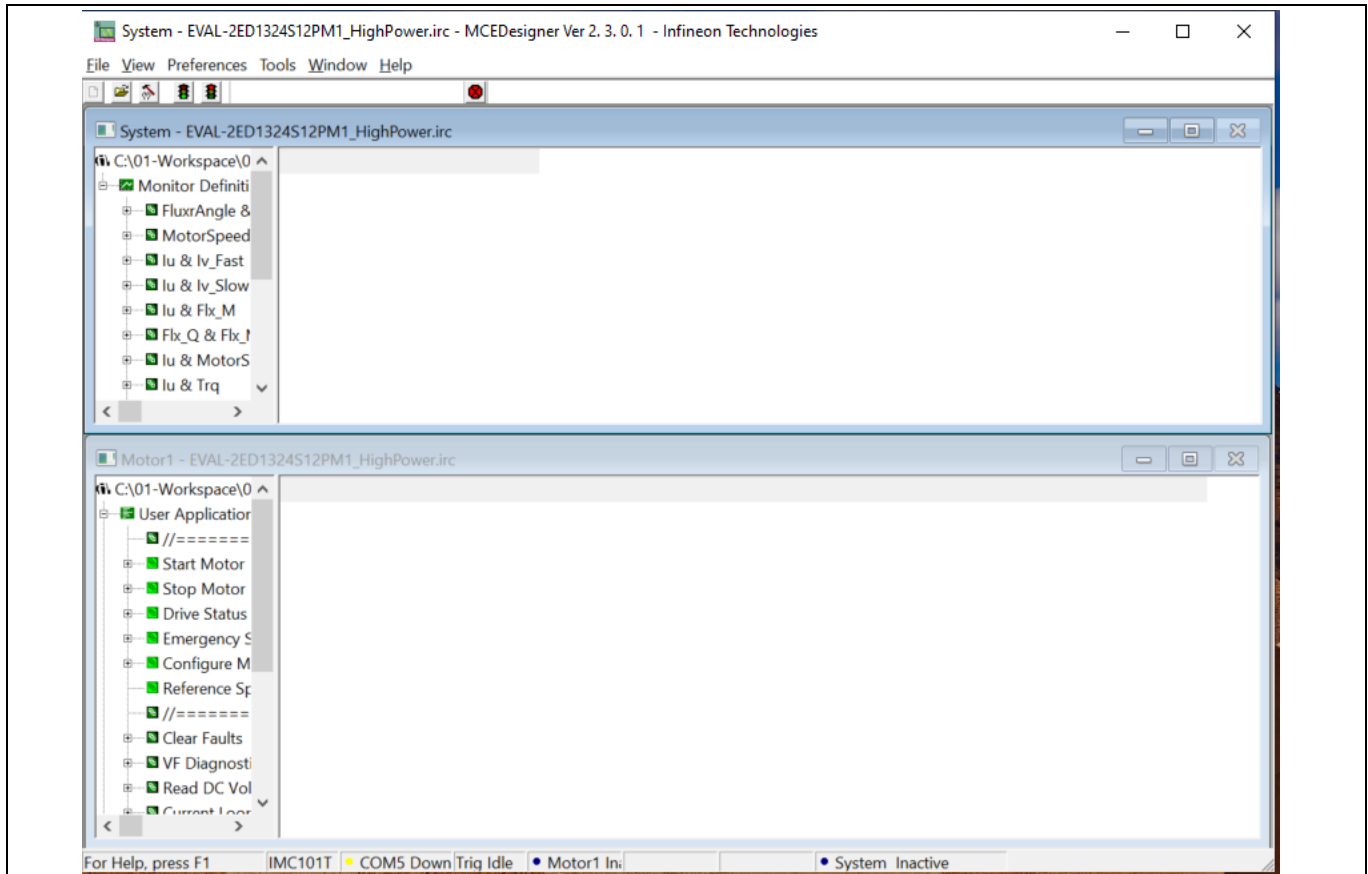

Figure 6 MCEDesigner's main display for EVAL-M1-101T
3. Go to the Verify & Save page and click **Calculate Parameters**. Then, save the drive parameter set into your project directory by clicking **Export to MCEDesigner file (.txt)** (see Figure 6). This saved drive system parameter file will be used later by the MCEDesigner. Refer to Section 2.1.4 or the MCEWizard user guide for more information.
The MCEDesigner is a user interface to access or debug the control board. Open the MCEDesigner and then open the IMC101T_xx.irc file. The main display page for EVAL-M1-101T opens, as shown in Figure 6.